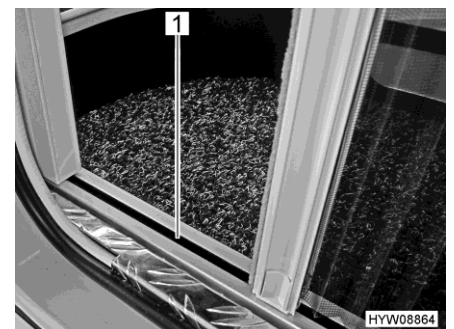

Fig. 36 Insect screen (bottom guide)
- ▷ Hold holding bar with both hands when closing or opening. This reduces the risk of the insect screen getting stuck in the guides (Fig. 36,1).